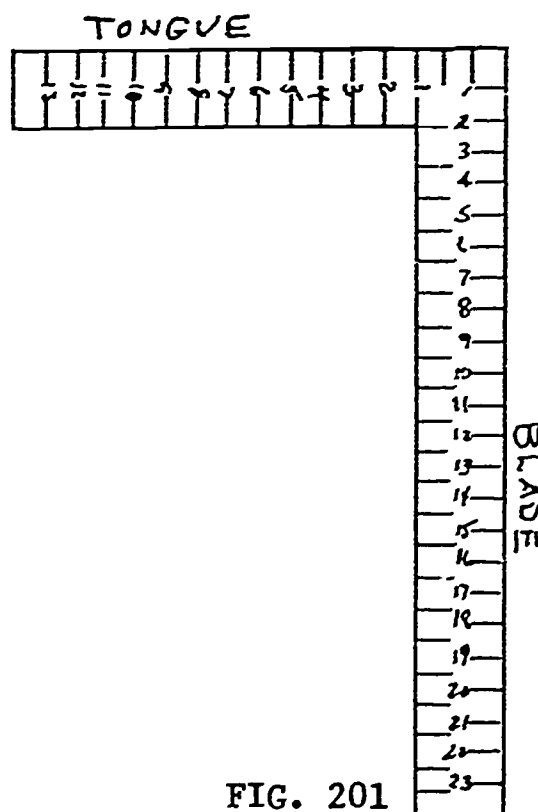

FIG. 201
1. The framing square is made of high-grade steel. The tongue is usually 16" long and the blade is divided into divisions of an inch. The framing square is used to "square up stock", to test large surfaces for warpage, to create right angles, and to measure with, up to 24". See figures 201, 202, 203.